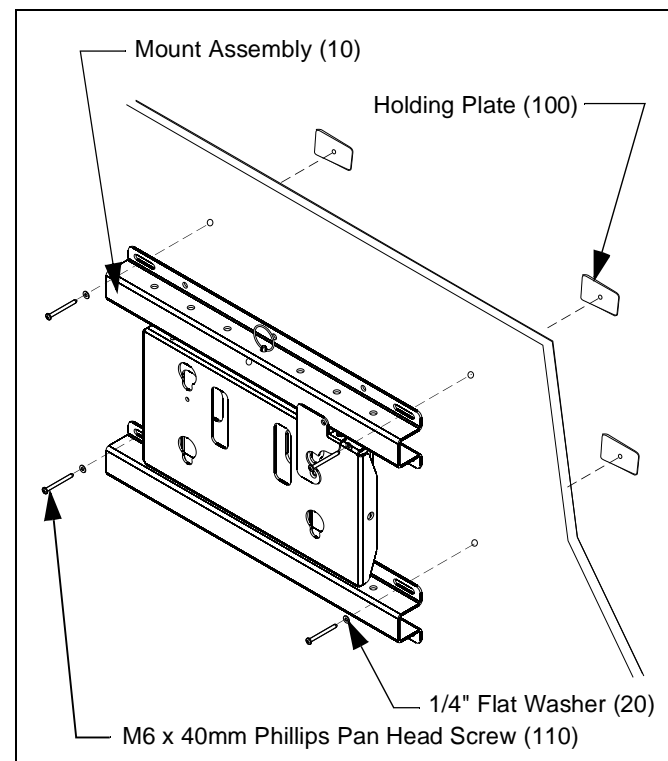

Figure 4: Secure Mount to Wall
4. Place mount assembly (10) against wall and align mounting holes in mount assembly (10) with pilot holes (See Figure 4).
5. Insert four M6 x 40mm Phillips pan head screws (110) with four 1/4" flat washers (20) through mount assembly (10) and wall, and into four holding plates (110) located behind wall (See Figure 4).